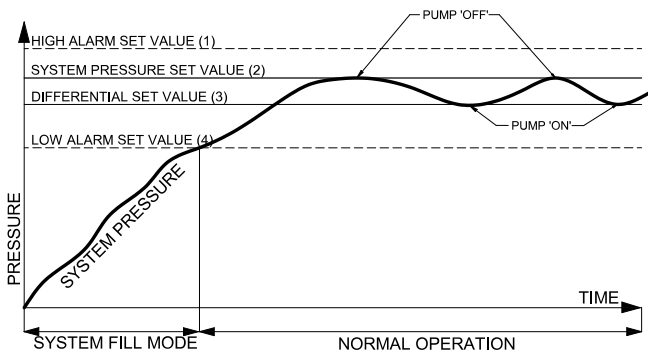

Fig. 20
System pressure (2) see Fig. 20	Sets the required system pressure. Set in 0.1 bar increments up to the maximum set value for the unit model. UNIT 130 & 230, 3.5 bar max., UNIT 150 & 250, 4.1 bar max.
Differential pressure (3) see Fig. 20	Sets the pressure differential (pump start pressure relative to the system pressure). Set in 0.05 bar increments below the System pressure (2), cannot be set higher than 0.1 bar below the System pressure (2).
Hi Alarm (1) see Fig. 20	Sets high system pressure alarm. Set in 0.05 bar increments above the System pressure (2). Cannot be set below System pressure + 0.05 bar. Alarm auto resets when system pressure is reduced below alarm level.
Lo Alarm (4) see Fig. 20	Sets low system pressure alarm. Set in 0.05 bar increments below the System pressure (2) - Differential pressure (3) - 0.05 bar. Alarm auto resets when system pressure is increased above alarm level.